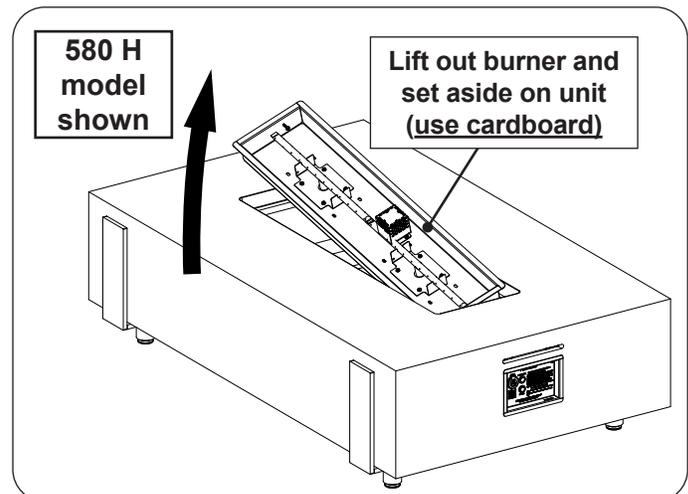

Fig. 33-4 Gain access to interior
8. Carefully lift out the burner just enough to set it off to the side onto a piece of cardboard (see Fig. 33-4).